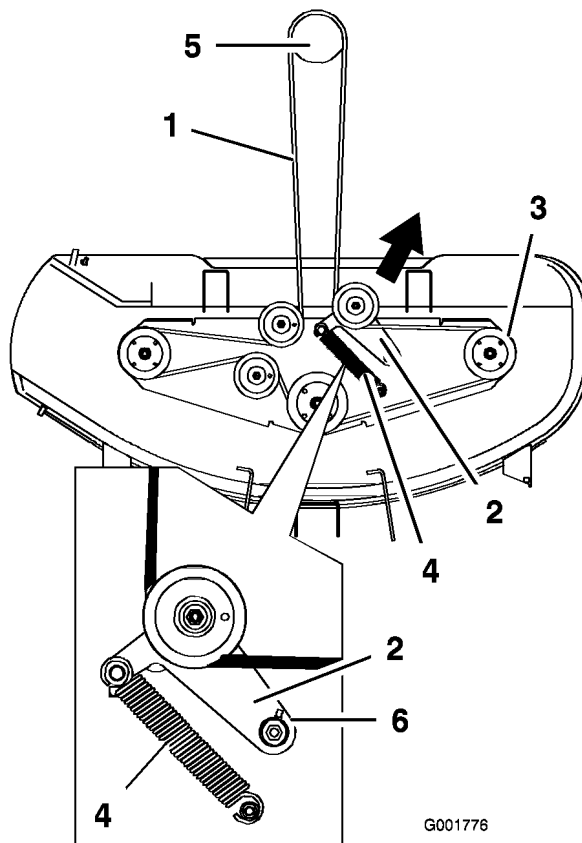

Figure 48
- Pull the idler pulley in the direction shown in Figure 48 and roll the belt off of the pulleys (Figure 48).
- Route the new belt through the idler arm and around the idler pulley (Figure 48).
- Pull the idler pulley in the direction shown in Figure 48 and route the belt onto the idler pulley (Figure 48).
Note: Check to ensure that the length of exposed thread on the spring eye bolt is 1/8 in. (3 mm) (Figure 48).